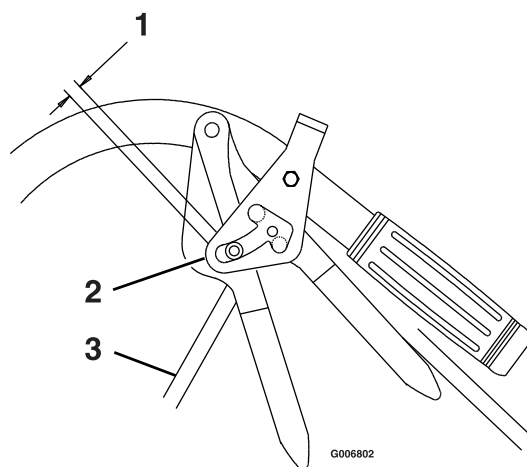

Figure 9
3. Adjust the drive linkage length by threading it into or out of the swivel until there is a 3/16 inch to 1/4 inch (4.7mm to 6.4mm) clearance between the linkage assembly and the bottom of the slot in the neutral lock/park brake latch (Figure 9).